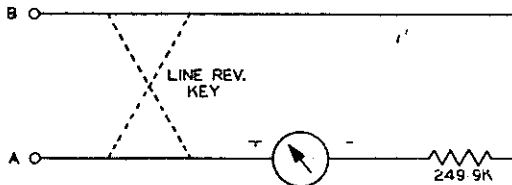

FIG. 9
13. **Switch in Posn. 8 (0-250V. D.C.).**—The meter is connected in series with a 249,900-ohm resistor and then gives a full-scale deflexion with 250 volts. The circuit is shown in Fig. 9.